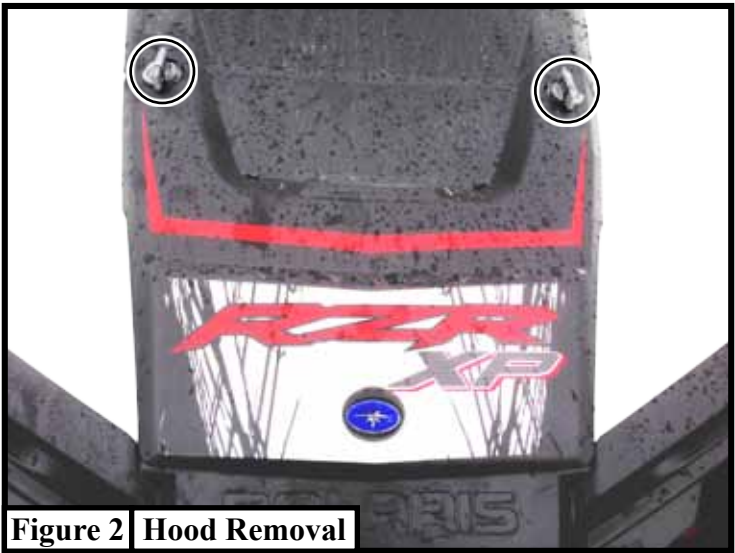

Figure 2 Hood Removal
2. Remove the original Lift Lock Latch (C) by removing the 6 Bolts (A) and 6 Nuts (B) as shown in **Figure 2**.
1. Remove the hood. Shown in **Figure 2**.